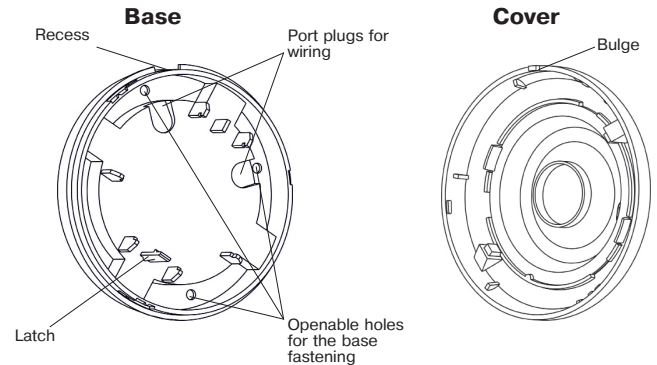

Figure 2 – Base and cover of the Detector
- Put off the Detector cover by its turning counter-clockwise full on to the recess on the external ring of the Detector base and then rise the cover (see Figure 2).
- Drill the holes in the base (See Figure 2) for the Detector wiring and fastening.